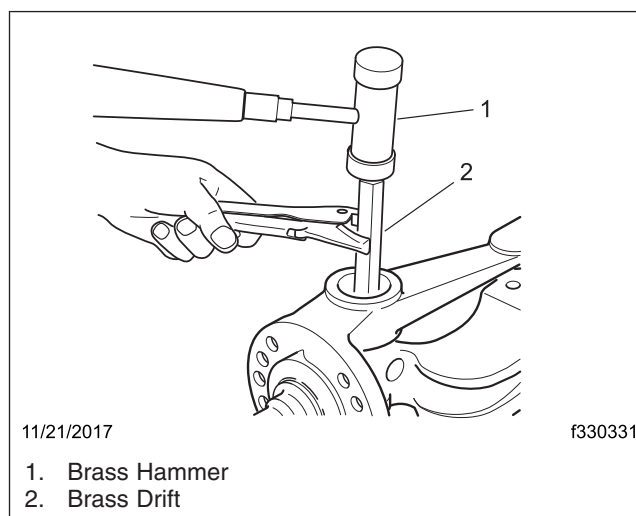

Fig. 14, Driving Out the Kingpin
16. Drive the kingpin out with a brass hammer and drift. See Fig. 14.